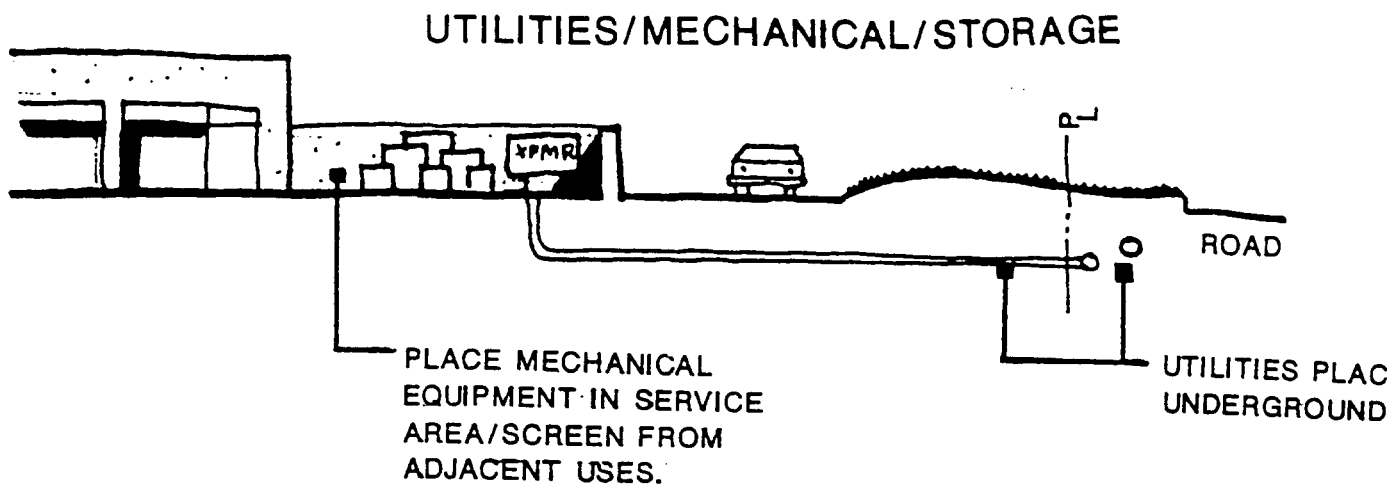

FIGURE 9
- Typically, utilities should be underground from R.O.W. to building to reduce visual clutter. (See Figure 9.)